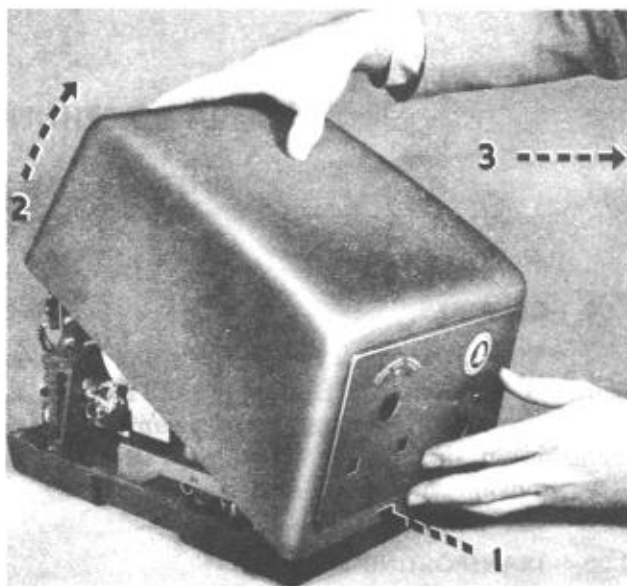

Fig. 5 — Hand Position and Direction of Movement in Removing Cover
4. Raise the rear of the cover until it clears the apparatus inside; then slide the cover forward off the knob and button levers (see Fig. 5).